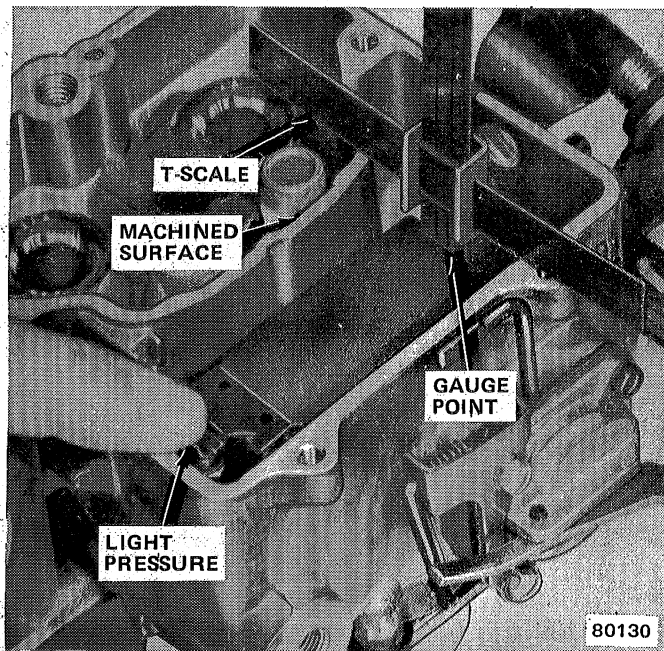

Fig. 1J-132 Float Level Adjustment—Dry
(1) Remove air horn assembly and gasket. Raise float by pressing down on float tab until fuel inlet needle is lightly seated.
(2) Use T-scale to measure distance from fuel bowl machined top surface to flat surface on either corner of float at free end. Refer to Specifications for correct dimension.
(3) Bend float tab to adjust. Hold fuel inlet needle off its seat while adjusting to prevent damage to Viton-tipped needle (fig. 1J-132).